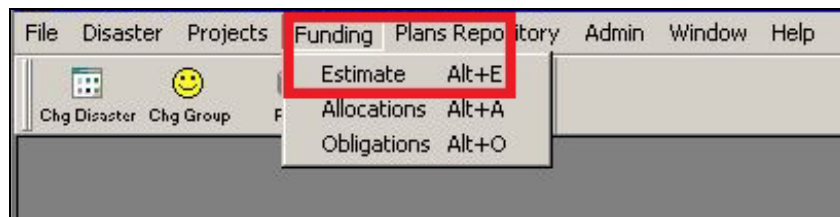

Figure 5-3: Mitigation > Funding > Estimate
1. On the MITIGATION menu bar, click Funding > Estimate (Figure 5-3).